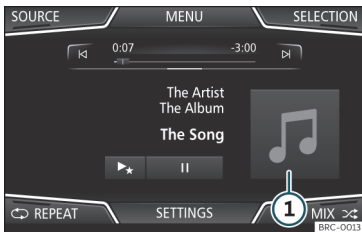
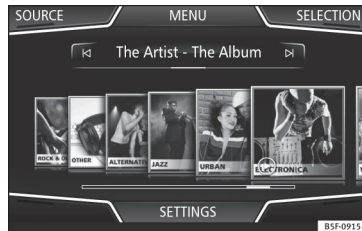
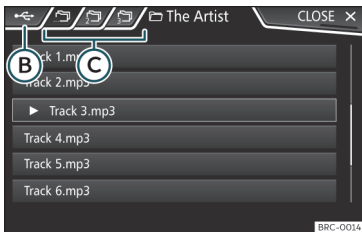

Fig. 151 MEDIA main menu.
Fig. 152 Selection by cover.
Fig. 154 Media Mode: list of tracks of a Media source.
Clicking on the current cover >>> Fig. 151 ① will display all of the album covers available in the active Media source >>> Fig. 152.
- Press the **[SELECT]** function button on the **MEDIA** main menu >>> **Fig. 151** to open the track list. The track that is playing is highlighted >>> **Fig. 154**.